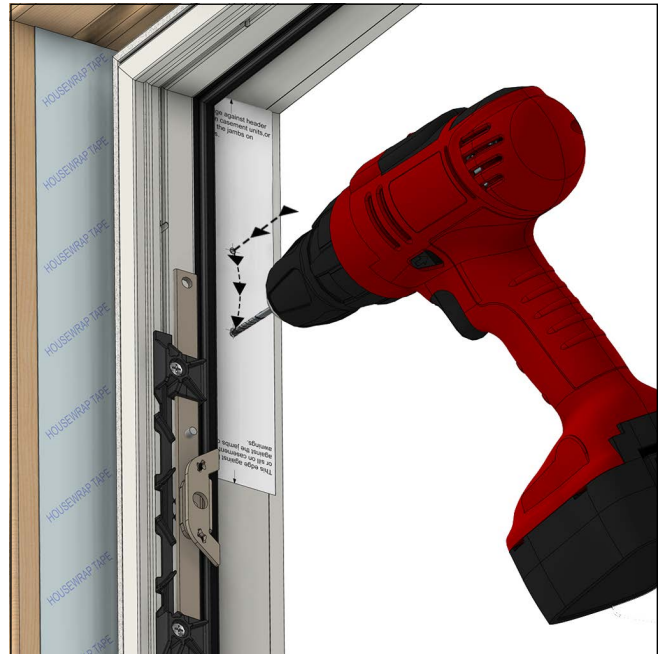

Figure 3
3. Remove the template. Use a 7/64" (3) drill bit to pre-drill the hole locations. See Figure 3. Be sure not to drill deeper than 7/16".